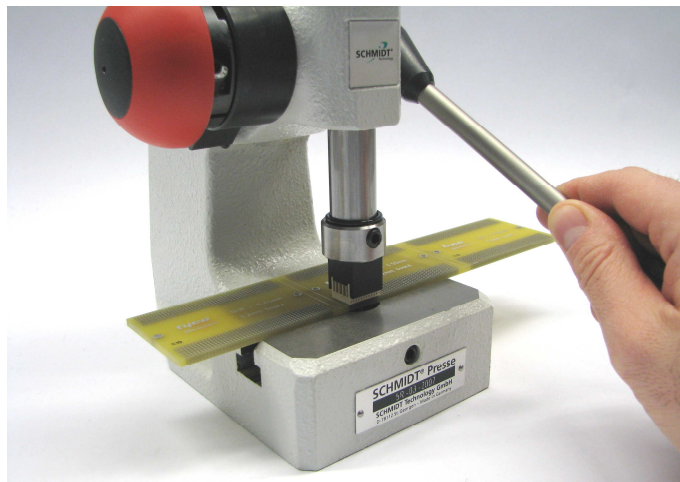

Figure 8
**4.** In order to press-in the male connector the hand lever needs to be actuated up to the preset stop (see figure 8).